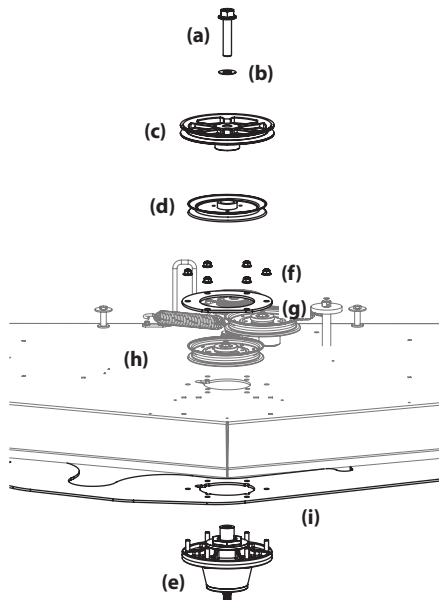

Figure 4-27
8. Remove the hex flange bolt (a) and flat washer (b) securing the drive pulley (c) and center spindle pulley (d) to the spindle assembly (e). See Figure 4-27.
9. Remove the six (6) flange lock nuts (f) securing the center (d), spindle assembly (e) and the support plates (g) to the deck shell (h). See Figure 4-27.